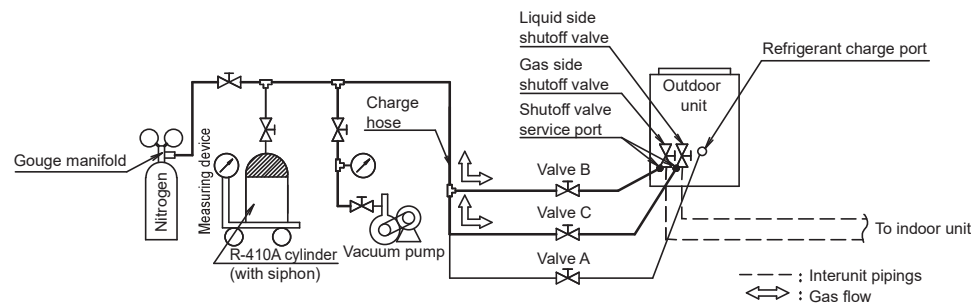

fig. 28
- Referring to figure 28, connect an nitrogen tank, refrigerant tank, and a vacuum pump to the outdoor unit.
- The shutoff valve and valve A~C in figure 28 should be open or closed as shown in the table below.